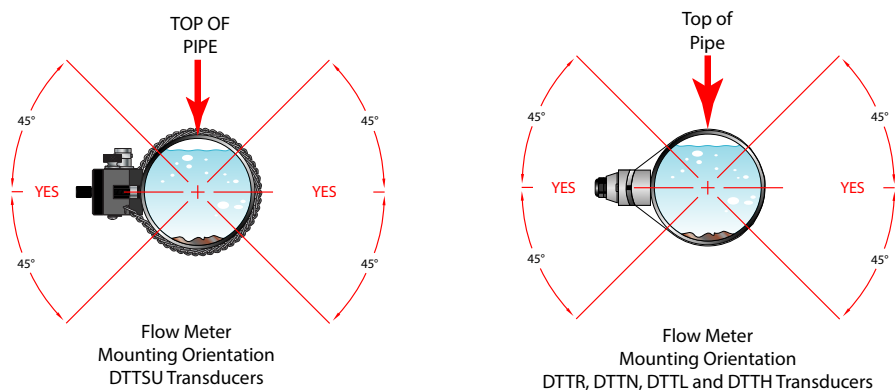

Figure 17: Transducer orientation for horizontal pipes
2. Orient and space the transducers on the pipe to provide optimum reliability and performance. On horizontal pipes, when Z-Mount is required, mount the transducers 180 radial degrees from one another and at least 45 degrees from the top-dead-center and bottom-dead-center of the pipe. See *Figure 17 on page 21*. Also see “Z-Mount Installation” on *page 24*. On vertical pipes, the orientation is not critical.
3. Crease the paper at the fold line. Mark the crease. Place a mark on the pipe where one of the transducers will be located. See *Figure 17* for acceptable radial orientations. Wrap the template back around the pipe, placing the beginning of the paper and one corner in the location of the mark. Move to the other side of the pipe and mark the pipe at the ends of the crease. Measure from the end of the crease (directly across the pipe from the first transducer location) the dimension derived in “*Select a Mounting Configuration*” on page 20. Mark this location on the pipe.